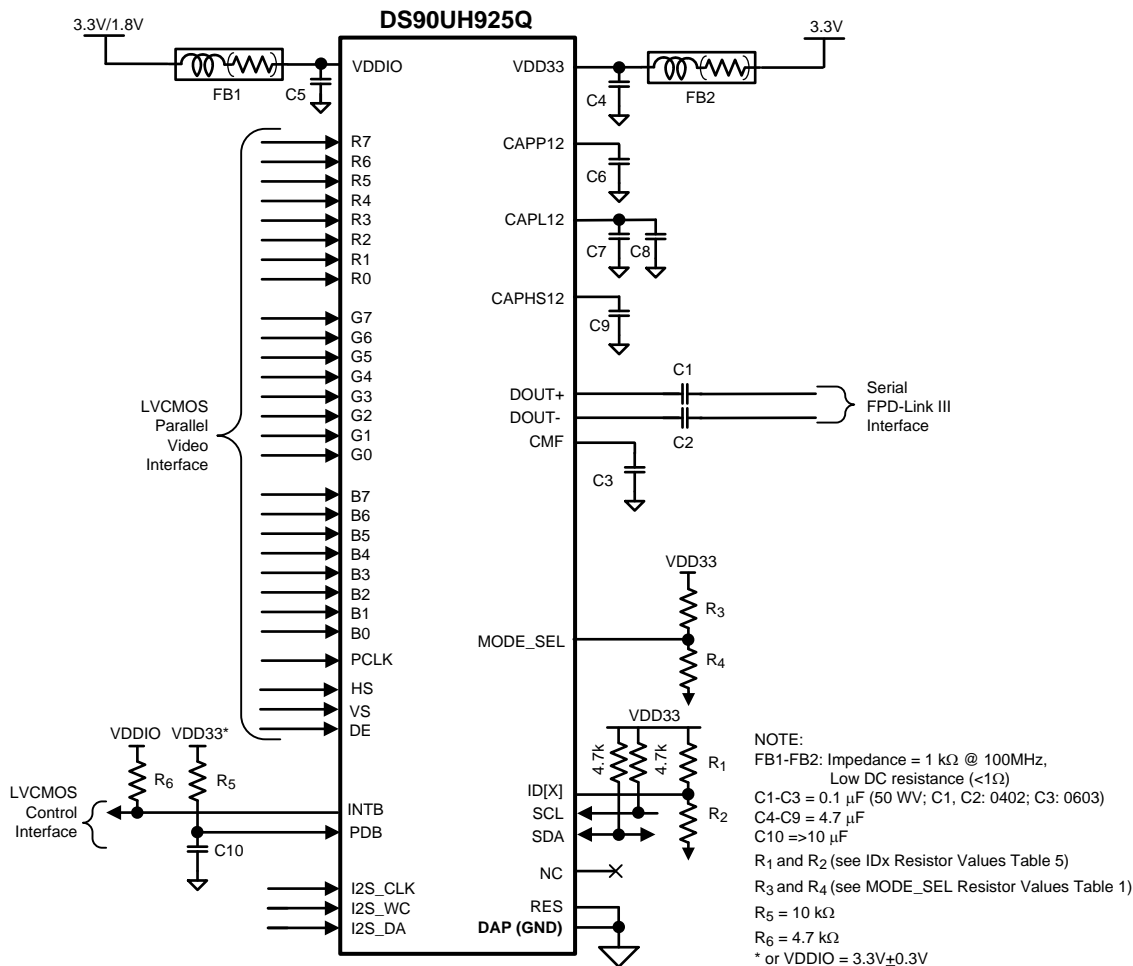

Figure 24. Typical Connection Diagram
Figure 24 shows a typical application of the DS90UH925Q serializer for an 85 MHz 24-bit Color Display Application. The CML outputs must have an external 0.1  $\mu$ F AC coupling capacitor on the high speed serial lines. The serializer has an internal termination. Bypass capacitors are placed near the power supply pins. At a minimum, six (6) 4.7 $\mu$ F capacitors (and two (2) additional 1 $\mu$ F capacitors should be used for local device bypassing. Ferrite beads are placed on the two (2) VDDs ( $V_{DD33}$  and  $V_{DDIO}$ ) for effective noise suppression. The interface to the graphics source is with 3.3V LVCMOS levels, thus the  $V_{DDIO}$  pin is connected to the 3.3 V rail. A RC delay is placed on the PDB signal to delay the enabling of the device until power is stable.
- Updated “Figure 24. Typical Connection Diagram”
- Corrected typo in Table 5. Serial Control Bus Addresses for IDx #11 Ideal VR2(V) from 2.475 to 1.475